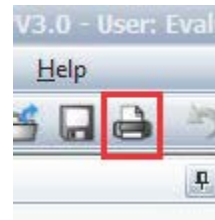

Figure 23:
1. Click on the Printer icon at the top of the software outlined in red in Figure 23. A Print Preview window will open up. On the top bar, click the icon for "Export as a PNG" outlined in red in Figure 24. This opens the File Save window. Save with the same name as the RAW file. If the names do not match exactly, the files will not upload. Then close the windows and repeat the process for the next sample.